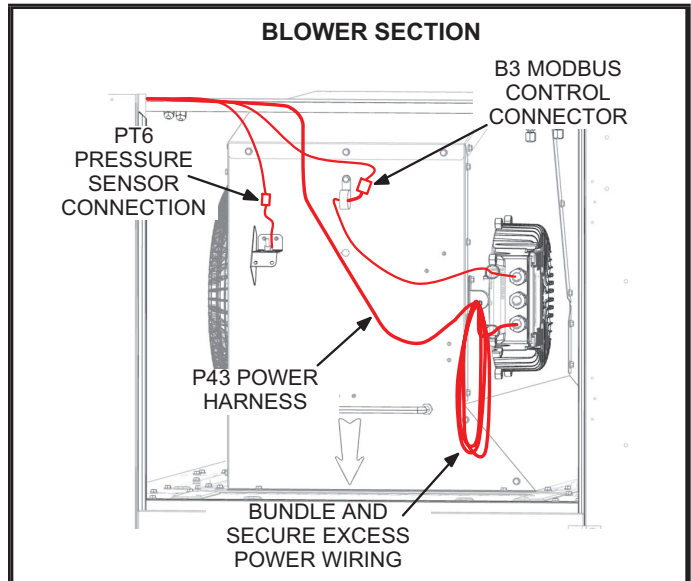
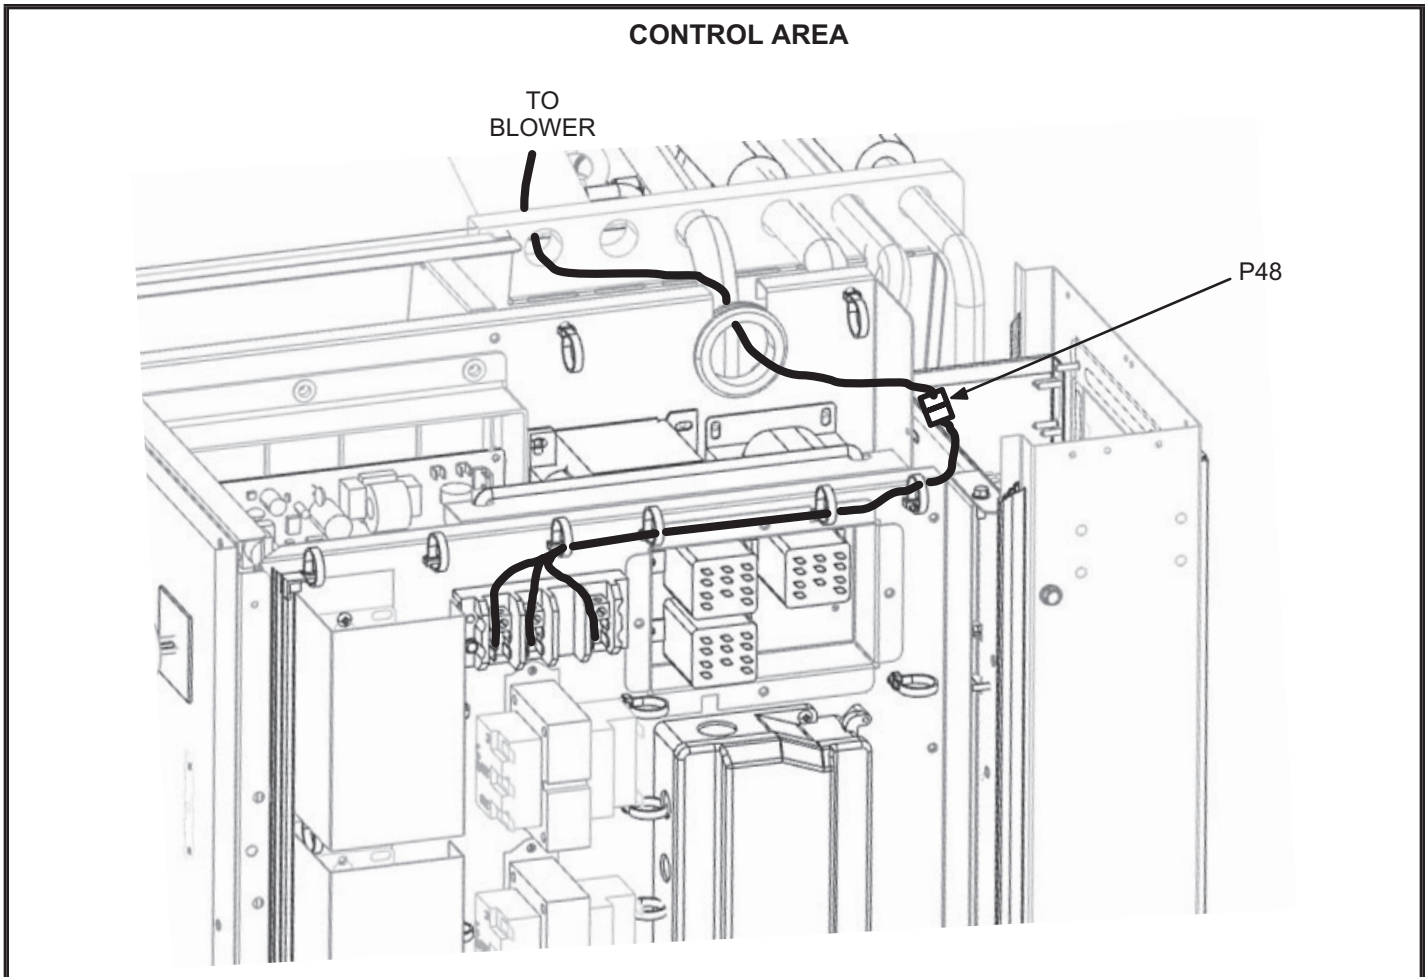

FIGURE 2
FIGURE 3
- 3 - Disconnect B3 Modbus connection and PT6 connection in the blower section. See FIGURE 2.
- 4 - Disconnect P48 in the controls area. See FIGURE 3.
- 9 - Connect P48, B3 Modbus, and PT6 connections as shown in FIGURE 2 and FIGURE 3.